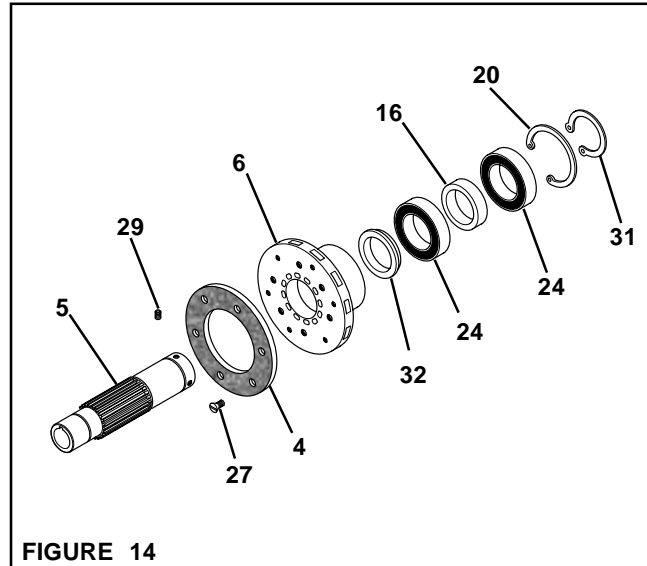

FIGURE 14
1. Remove the Retaining Ring (Item 31) (See Figure 14).
2. Press the Hub (Item 5) out of the two Ball Bearings (Item 24), Spacer (Item 16), and Pilot Mount Drive Disc (Item 6) (See Figure 14).
**Do not remove the Backing Plate (Item 39) from the Hub (Item 5) (See Figure 14).**
3. Remove the Retaining Ring (Item 20) (See Figure 14).
4. Press the two old Ball Bearings (Item 24) and Spacer (Item 16) out of the Pilot Mount Drive Disc (Item 6) (See Figure 14).
7. Align the outer race of the first new Ball Bearing (Item 24) with the bearing bore of the Pilot Mount Drive Disc (Item 6); then, press the first new Ball Bearing (Item 24) into place (See Figure 14).
8. Reinstall the Spacer (Item 16) (See Figure 14).
9. Align the outer race of the second new Ball Bearing (Item 24) with the bearing bore of the Pilot Mount Drive Disc (Item 6); then, supporting the inner race, press the second new Ball Bearing (Item 24) into place (See Figure 14).
10. Reinstall the Retaining Ring (Item 20) (See Figure 14).
11. Supporting the inner race of the second new Ball Bearing, press the Hub (Item 5) into the two new Ball Bearings (Item 24), Spacer (Item 16), and Pilot Mount Drive Disc (See Figure 14).
12. Reinstall the Retaining Ring (Item 31) (See Figure 14).
13. Remove the six old Flat Head Screws (Item 27) that secure the Friction Facing (Item 4) to the Pilot Mount Drive Disc (See Figure 14).
14. Remove the old Friction Facing (Item 4) (See Figure 14).
15. Using six new Flat Head Screws (Item 27), secure the new Friction Facing (Item 4) to the Pilot Mount Drive Disc (See Figure 14).